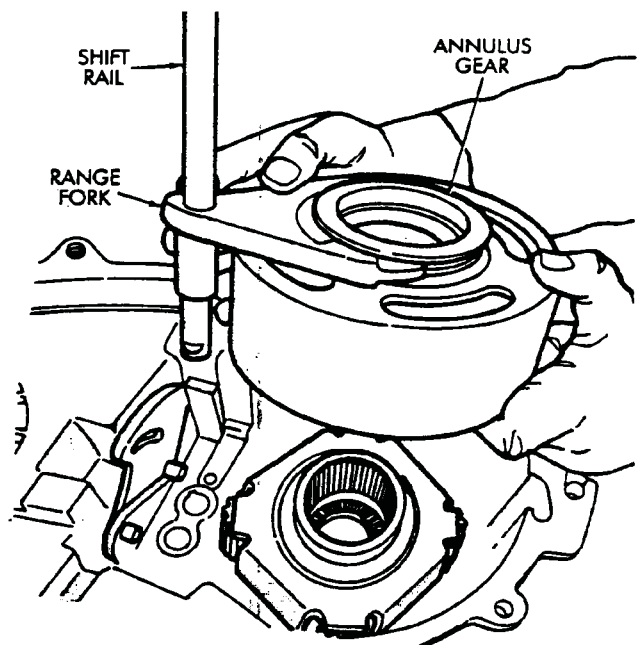

Fig. 4-44 Install Range Fork and Annulus Gear
34. Insert range fork in annulus hub. Then install fork, rail and gear in case (Fig. 4-44). Be sure annulus is fully engaged with planetary gear and that shift rail is bottomed in case bore.